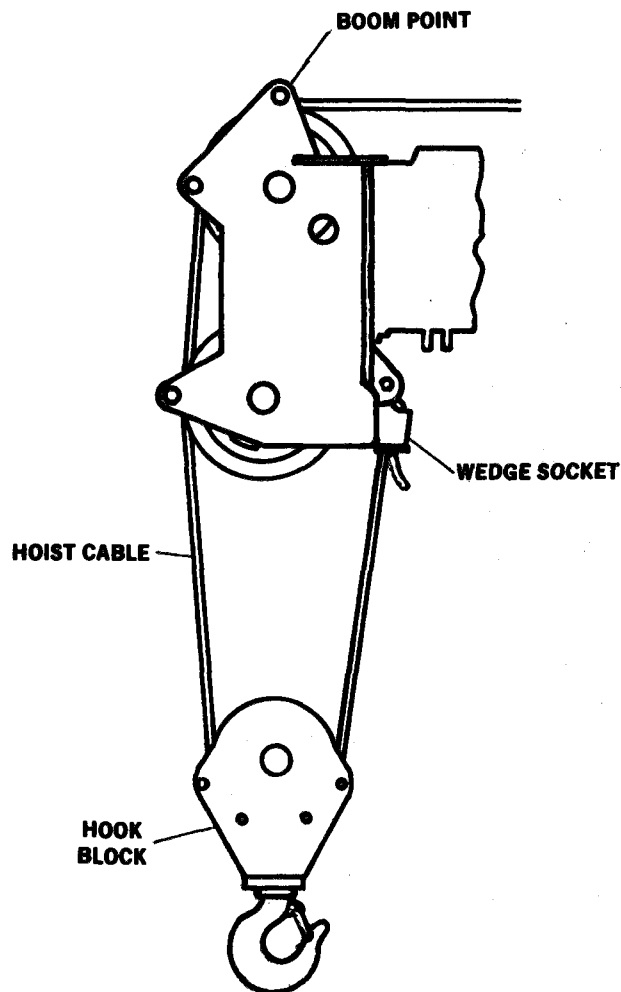

Figure 10-7. Cable Reeving Through Boom Point and Hook Block
c. Position sheave assembly (2) and spacers (25) in hook block (13) and insert sheave pin (26). Install eyebolt rivets (9) into sheave pin and fasten rivets with flat washers (10), lockwashers (11), and capscrews (12).
d. Reeve hoist cable through hook block. Secure hoist cable to boom point with wedge socket. Refer to figure 10-7.